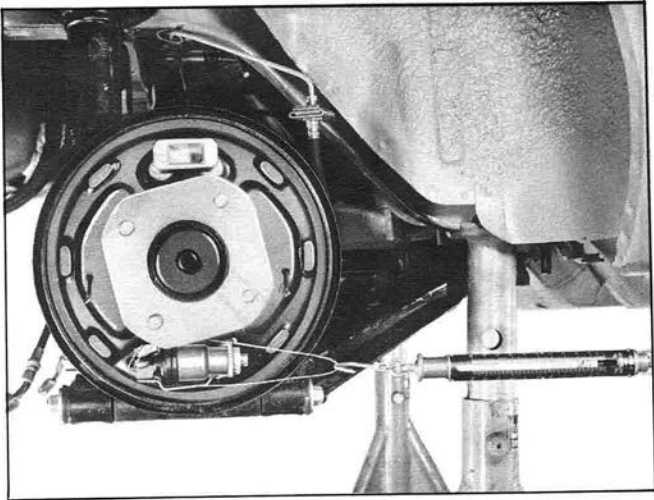

Fig. BR-32 Measuring sliding resistance
3. Measure the wheel cylinder sliding resistance without installing the brake tube as shown in Figure BR-32, and make sure that the sliding resistance is in range from 2 to 7 kg (4.409 to 15.432 lb).